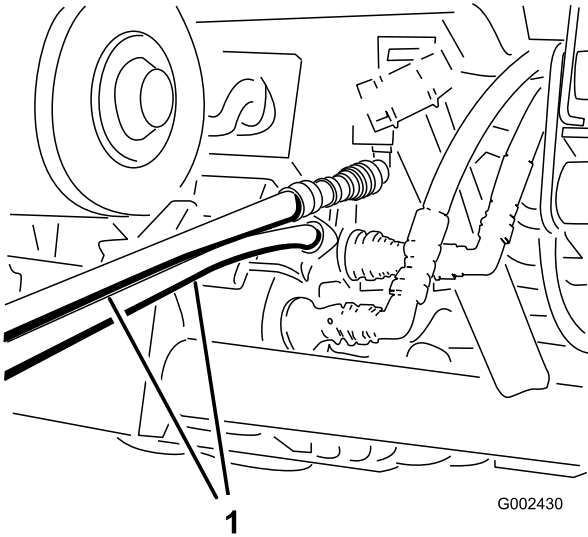

Figure 73
4. On the other vehicle, connect the two hoses to the coupler still in the coupler bracket (connect the top hose to the top coupler and the bottom hose to the bottom coupler) (Figure 73). Cap the unused fittings.